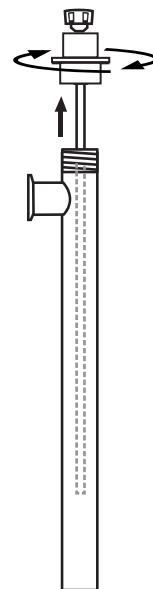

Figure 7
7. For stainless steel models (i.e. SP-SS Series, 9414-9417 & 9604- 9607), remove connection flange (P/N 8102) from inner/outer tube assembly by turning clockwise (see Figure 7).